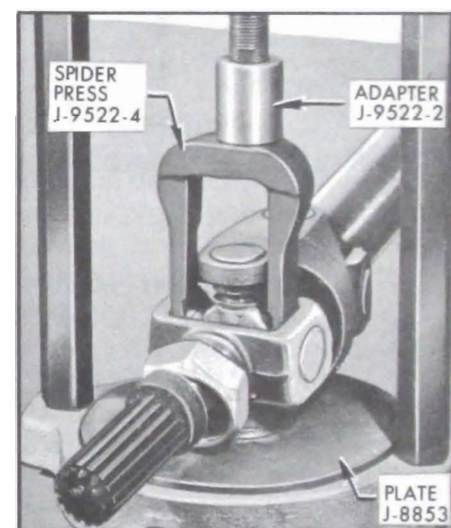

Figure 6-57—Pressing Out Bearing
2. Set up J-6180-01 Power Ram and J-6207 Hydraulic Pump in preparation for removing the propeller shaft bearings. With this use Axle Bearing and Retainer Replacer J-8853 as a base plate. Attach Adapter J-9522-2 onto the ram screw. See Figure 6-57.
3. Position propeller shaft constant velocity joint into the fixture as set up in Step 2 with the link yoke bearing over the hole in J-8853 Replacer. Install spider press J-9522-4 on spider. See Figure 6-57. The notches in the spider press are offset so that this press can be positioned on the spider without interference from the link yoke casting.